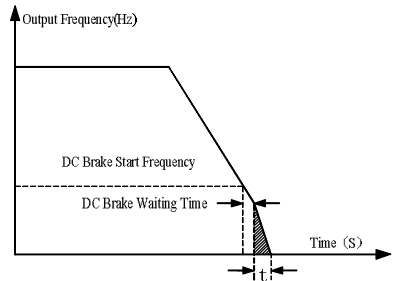

Figure 7-11 DC Brake Process at Stop
- The process of DC brake at stop is as shown in Figure 7-11.